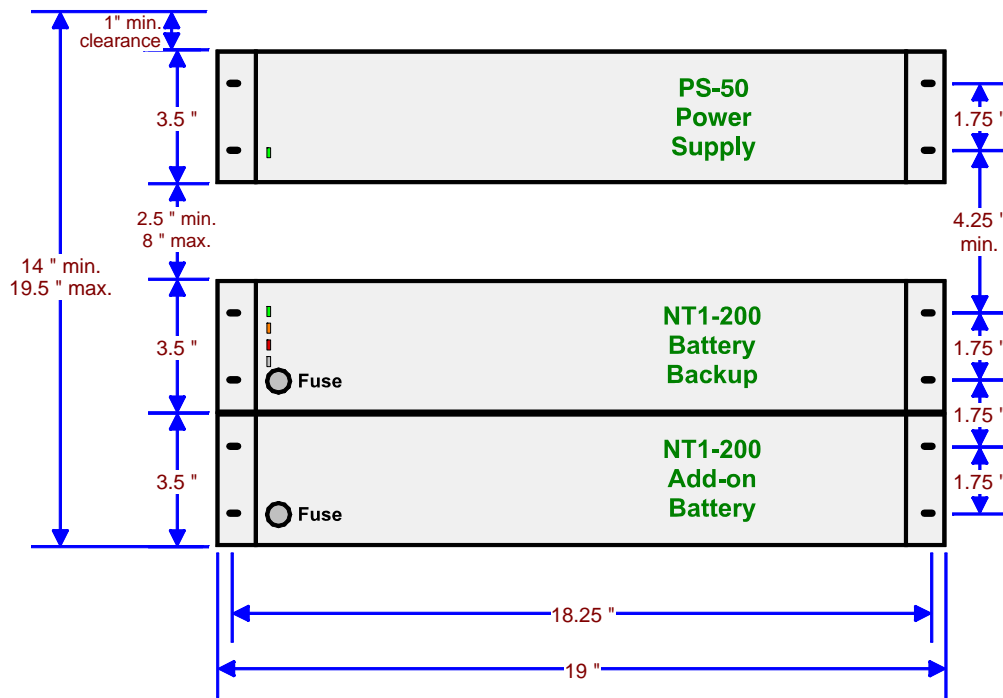

Figure 7 – Wall Mounting with PS-50
3. Mark and pre-drill the mounting holes for the battery backup and/or add-on battery. Refer to Figures 7–10 for hole locations and required clearances.